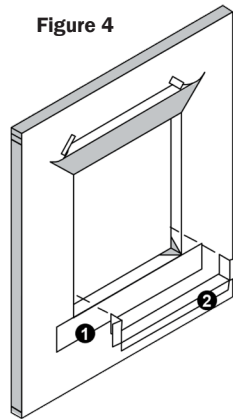

Figure 4
Apply a piece of flashing ① that is 18" longer than the rough opening. Apply sill flashing level with top edge of R.O. allowing 9" of flashing to extend to each side of R.O. (fig. 4).
Apply a piece of flashing ② that is cut 12" longer than the rough opening. Apply the flashing so it is flush with the interior edge of the rough sill and notched at the corners to allow the flashing to extend 6" up the jambs (fig. 4).